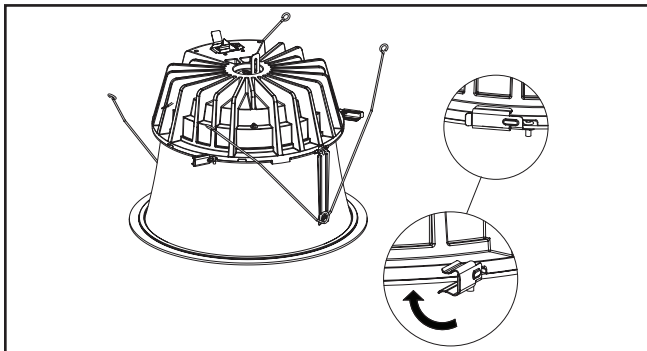

Figure 38.
5. Rotate side clips (3) into place to securely attach trim assembly to LED engine (Figure 38).